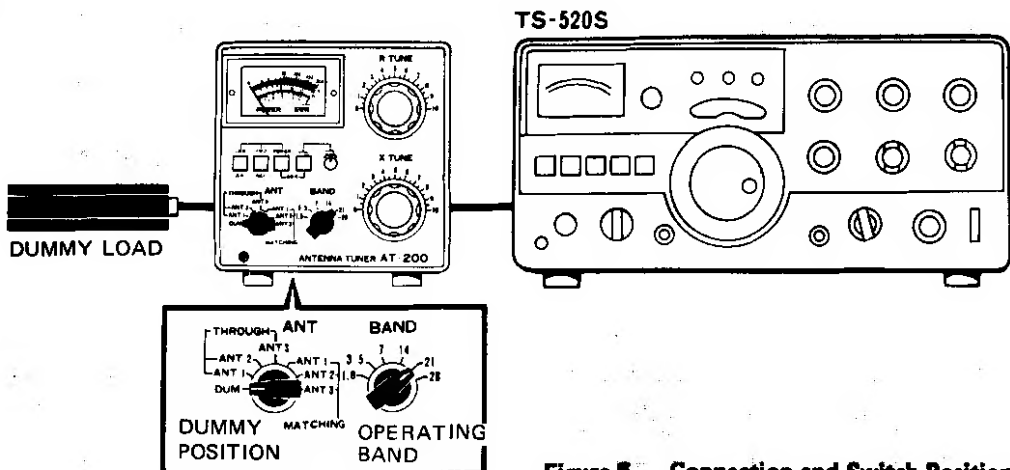

Figure 5. Connection and Switch Positions
Interconnect your AT-200 with the transceiver, antenna and dummy load as illustrated in Figure 5-A.
- Set the ANT switch to the DUM position as shown in Figure 5-B.